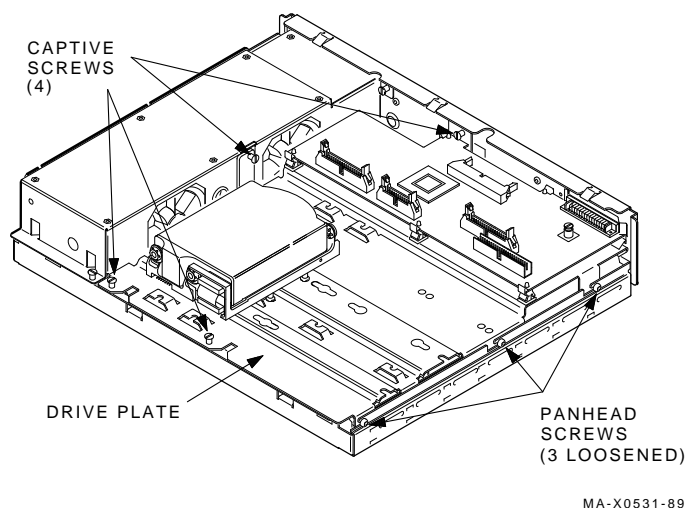

Figure 4-3 Removing the Drive Mounting Plate
3. Unscrew the four captive screws, loosen the three panhead screws (Figure 4-3), and slide the plate forward and up off the system box.